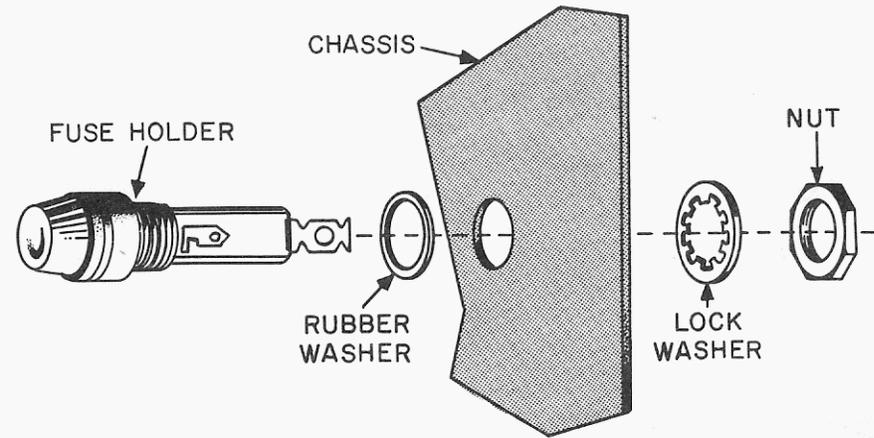

FIGURE 5
- F-1, fuse holder with hardware. See Figure 5. Place the rubber washer over the threaded end of F-1. Insert F-1 in its mounting hole from outside the chassis. Position the terminals as shown and fasten with the lockwasher and nut supplied.